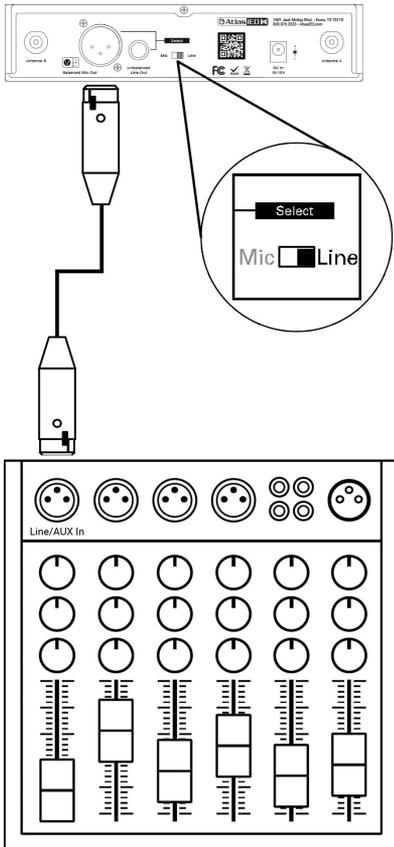
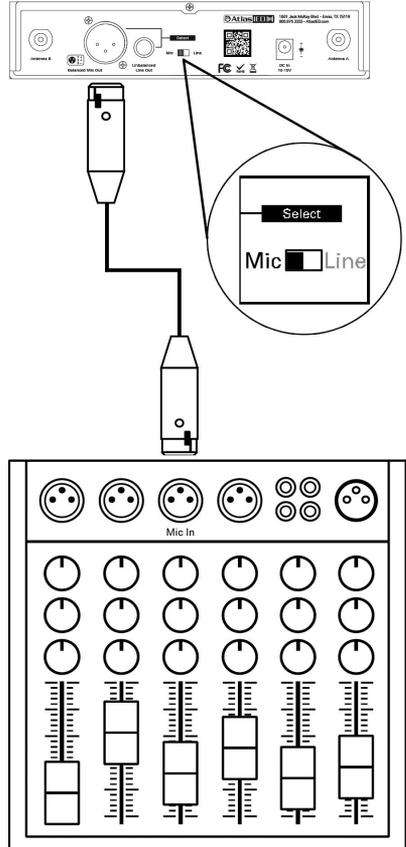

Figure 16
Figure 17
**Level Switch Setting:** When connecting to the LINE/AUX IN of a mixer/amplifier, switch to “LINE” position (Fig 16). DO NOT use the “MIC” position as they may not deliver a sufficient output level. When connecting to the “MIC IN” jack of a mixer/amplifier, switch to “MIC” position (Fig 17). Distortion may occur at the wrong level position.